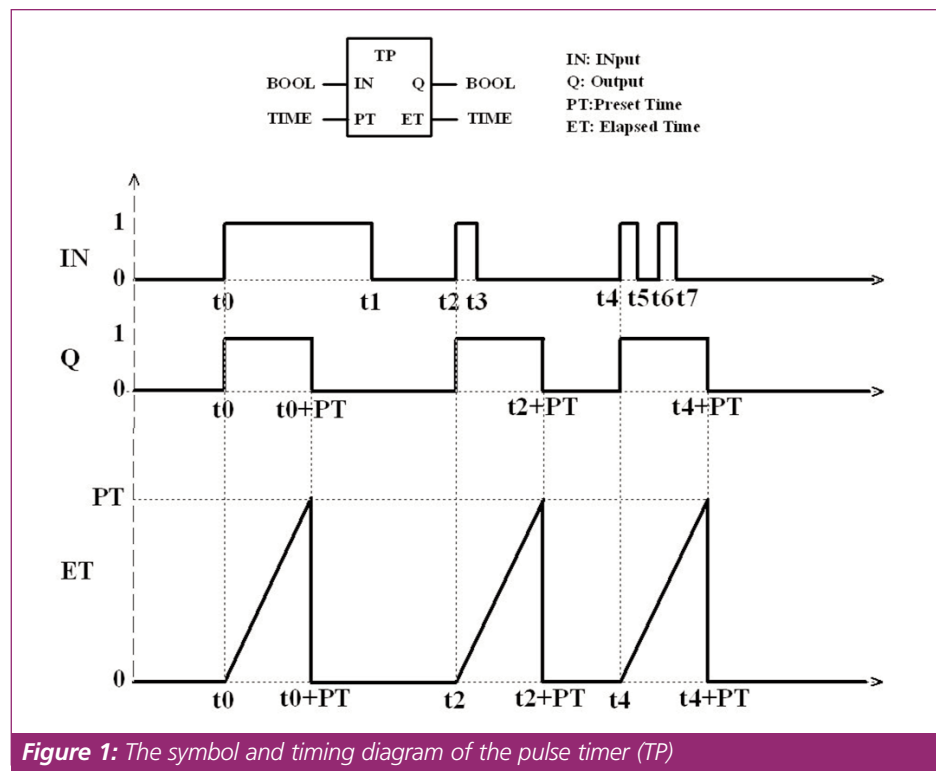

Figure 1: The symbol and timing diagram of the pulse timer (TP)
THE PULSE timer can be used to generate output pulses of a given time duration. The symbol and timing diagram of the pulse timer (TP) are both shown in **Figure 1**. As the input signal IN goes true (ON – 1), the output Q follows and remains true (ON – 1), for the pulse duration as specified by the preset time input PT.